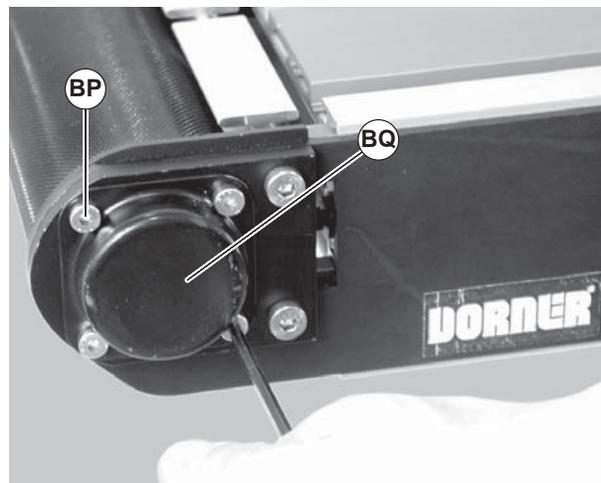

Figure 49
- 4. Remove four shaft cover screws (Figure 49, item BP). Remove the shaft cover (BQ).